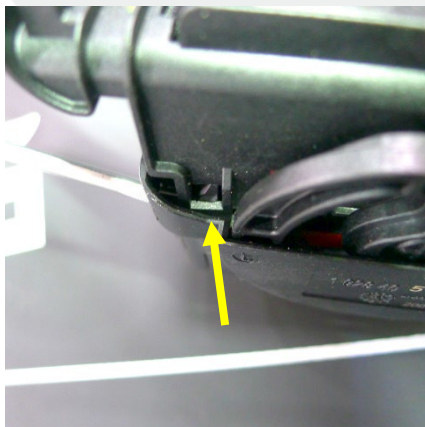
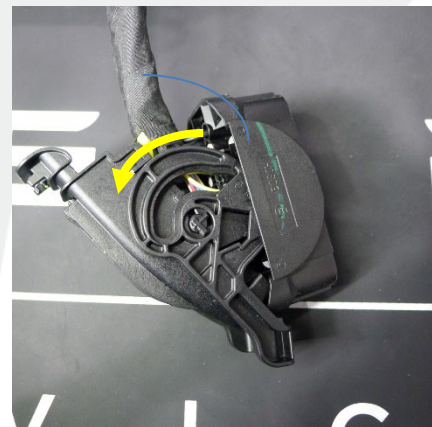

Figure 9
Figure 10
12. Release the tabs (x2) that attach the rear cover to connector X151 (Figure 9), swing the rear cover out (Figure 10), and then remove the rear cover from the connector.